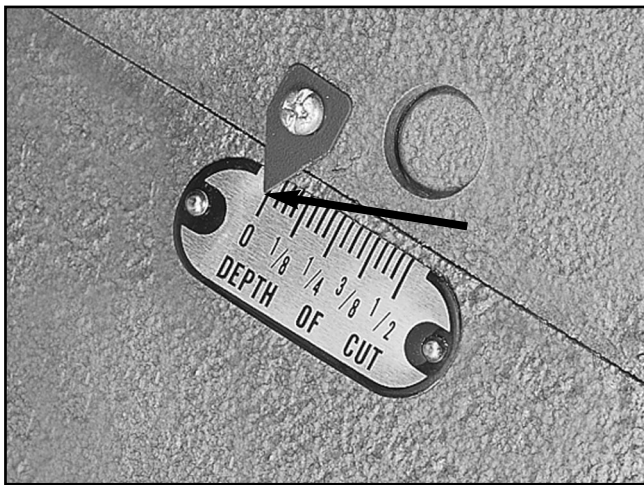

Figure 29. Depth-of-cut pointer adjusted to "0" position.
4. Adjust the depth-of-cut pointer to read "0" (Figure 29).